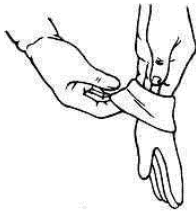
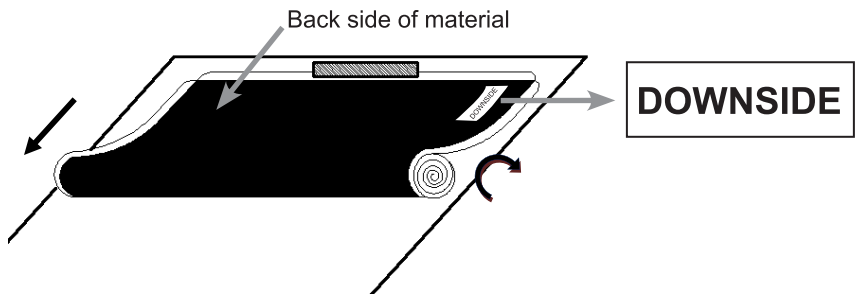

Figure 1
Figure 2
Before handling the StarBright CLR® material (H), put on the supplied pair of white gloves (G) to avoid leaving fingerprint marks, dust or oil from your hands on the surface of the material (Figure 1). The StarBright CLR® material (H) is very delicate and should be handled with extreme care. Do not allow the material to fold or bend. Failure to follow instructions will result in permanent damage to the screen material, which is not covered by warranty.
1. Remove the StarBright CLR® material (H) from the packaging tube and set it gently on a clean surface.
2. It is strongly recommended for two people to unroll the material to prevent the screen from bending or rolling unevenly. Each person should hold one end of the roll and slowly unroll the screen in a clockwise direction (Figure 2).